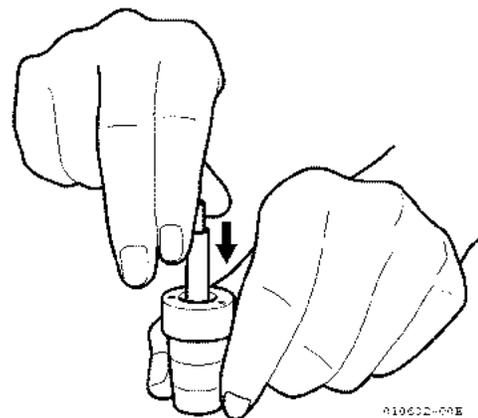

Figure 6-88
- (b) While holding the nozzle body vertical, pull the nozzle valve about two-thirds of the way out (**Figure 6-88**).